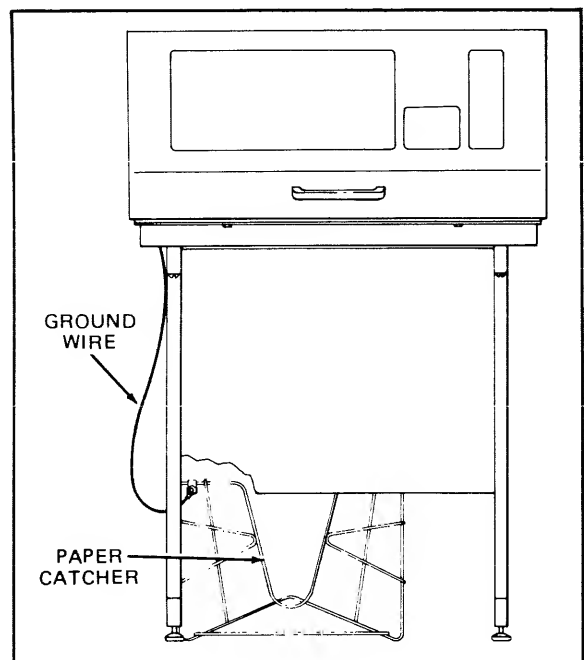

Figure 13.
i. Place paper catcher (wire basket) on floor between pedestal feet, with one end against left-hand base of pedestal (figure 13).